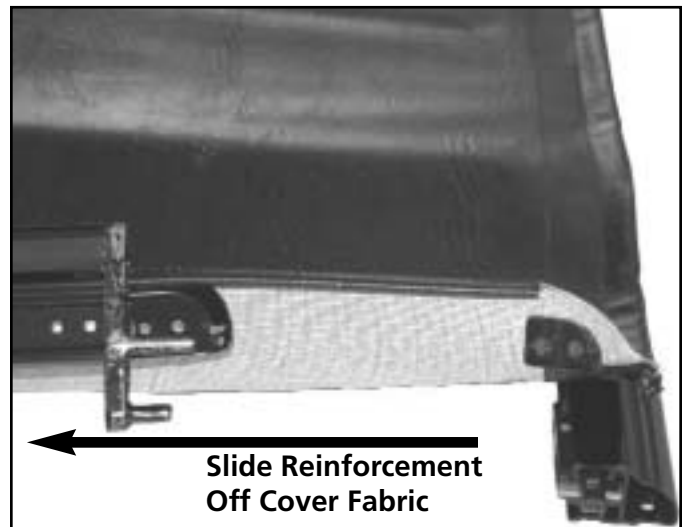

Figure S-62
12. Lift the reinforcement and slide it off of the cover by moving it sideways. See figure S-62.